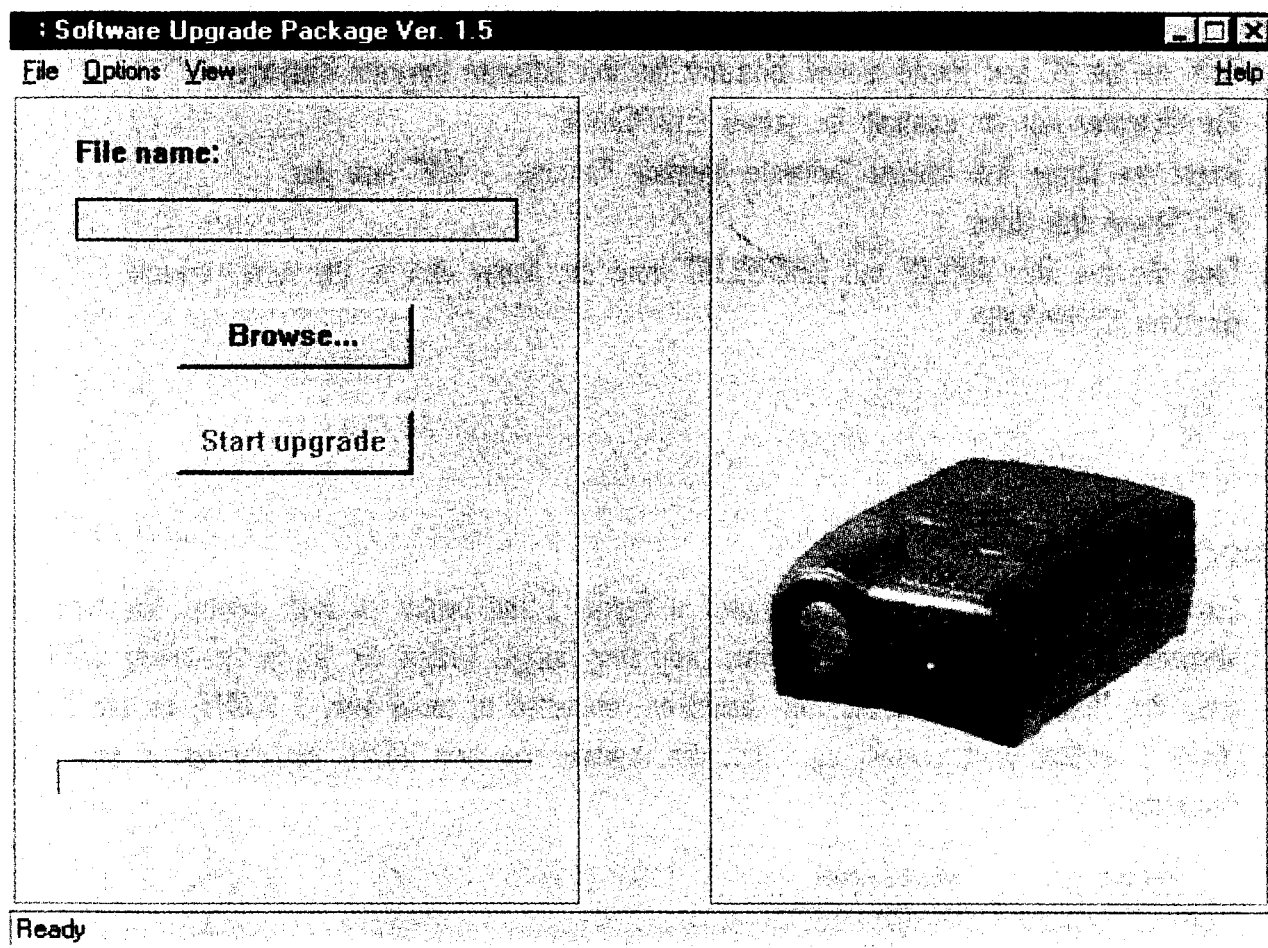

Figure 3: SUP initial view.
- 2) Start the SUP program. This can for example be done by selecting **Run** in the Windows Start menu and then pressing the **Browse...**-button. Double click the directory C:\UPGRADE. Then double click the SUP.EXE icon. This will start the SUP program and the window in Figure 3 will appear on the screen.